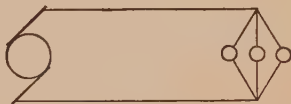

FIG. 47.
**Problem 28.** If each lamp of the combination, Fig. 47, takes 1.5 ampere, how many amperes must the generator deliver?